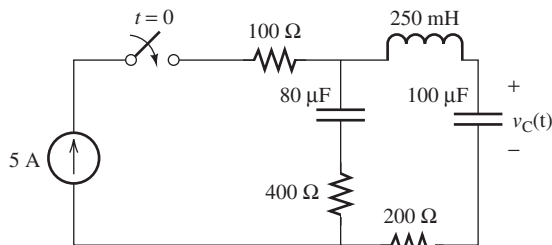

FIGURE P5.48 Circuit for Problem 5.48.
- 5.48 (H) The switch in Figure P5.48 closes at $t = 0$. Write the differential equation for $v_C(t)$.